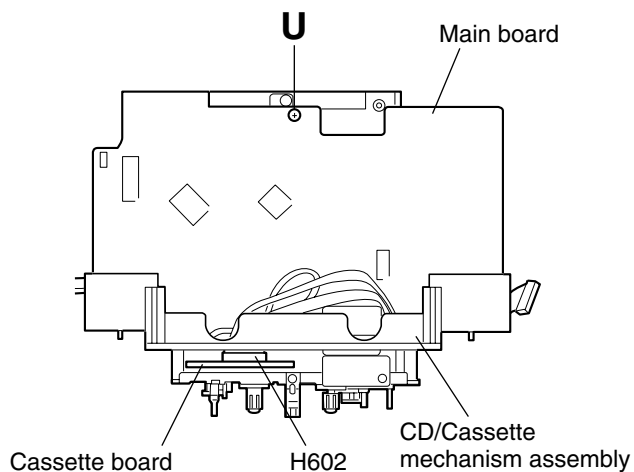

Fig.23
(See Figs. 23 to 25.)
2. Disconnect the wire from the connector H602 on the cassette board. (See Fig.23.)